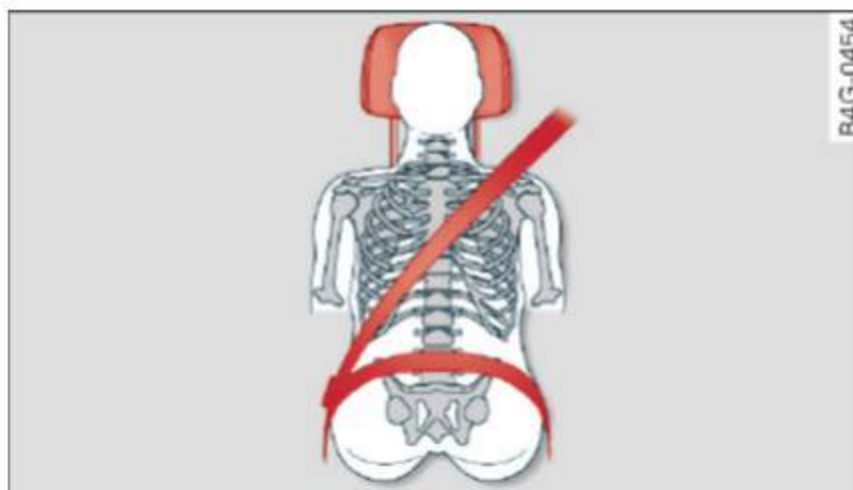

Fig. 119 Head restraint: viewed from the front
- ▶ Adjust the head restraints so the upper edge is as even as possible with the top of your head. If that is not possible, try to adjust the head restraint so that it is as close to this position as possible ⇒ *fig. 119*.